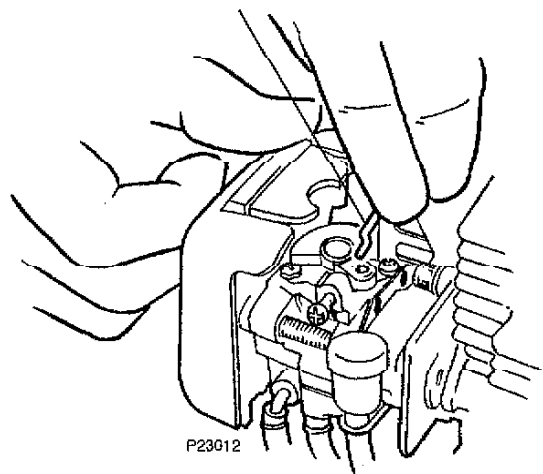

Figure 10
2. Connect the S-shaped end of the throttle cable to the throttle lever on top of the carburetor as shown in Figure 10.